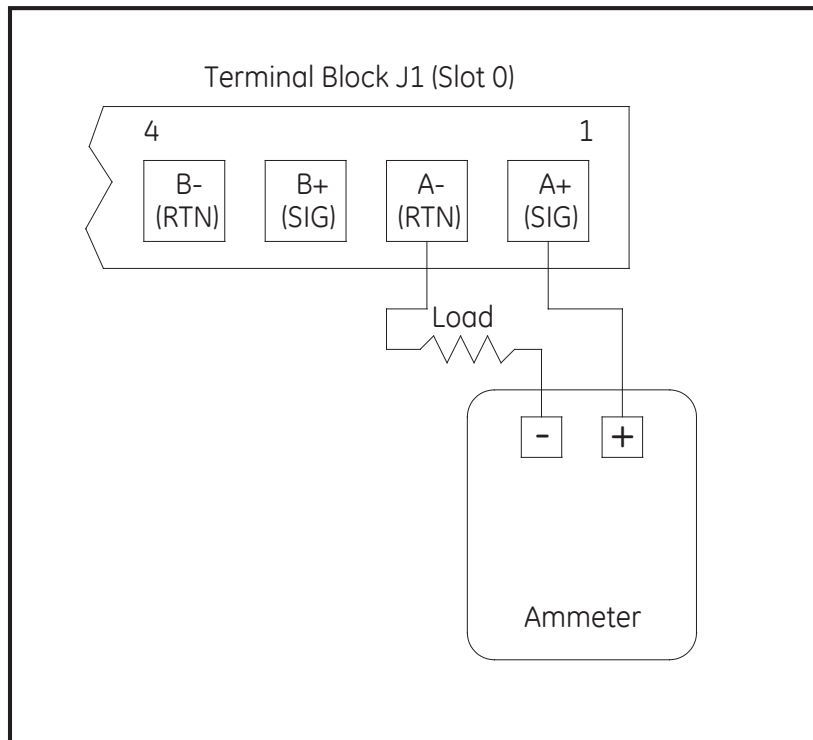

Figure 11: Ammeter Connection (Output A)
Prepare for calibration by inserting an ammeter in series with the load on analog output A at terminal block J1, as shown in Figure 11.
**IMPORTANT:** *The procedure for calibrating Output B is identical to that for calibrating Output A. However, when calibrating Output B, be sure to reconnect the ammeter on terminal block J1. See Figure 11 on page 43 for the correct pin numbers.*